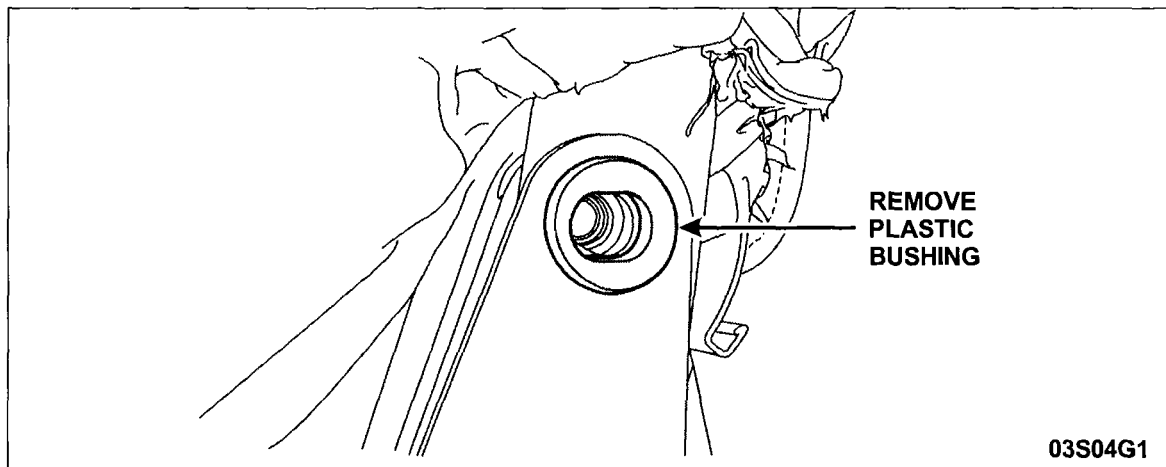

FIGURE 7
12. Remove and discard the plastic bushing. See Figure 7.